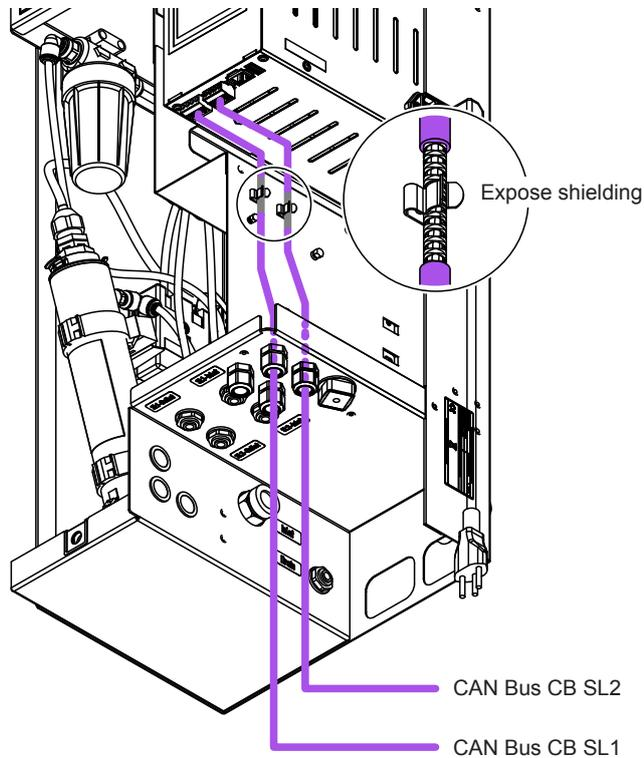

Fig. 47: Connecting CAN bus cables for spray loop 1 and spray loop 2 to the ConBox
- Connect the CAN Bus cable from spray loop 1 and, if present, spray loop 2 to the corresponding ports on the ConBox (CB) of the central unit according to Fig. 47.